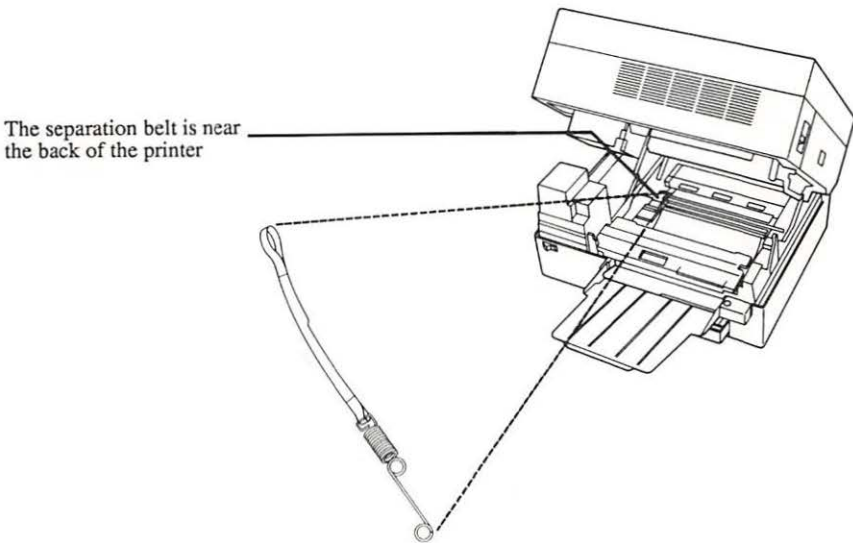

FIGURE 5-12: SEPARATION BELT LOCATION
2. Locate the separation belt (Figure 5-12).